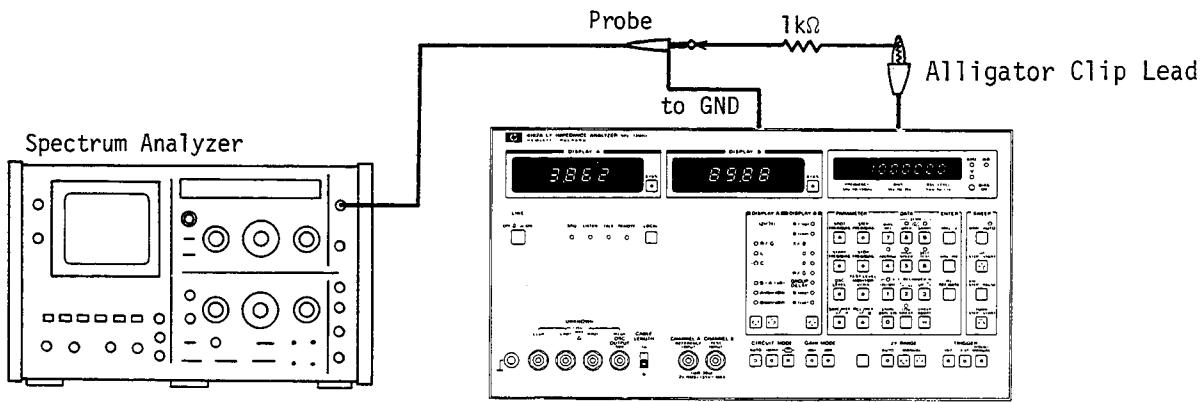

Figure 5-6. A4 S/H 100kHz Spurious Adjustment Setup.
- a. Connect the input of the Spectrum Analyzer to A4TP1 through the  $1k\Omega$  resistor as shown in Figure 5-6.